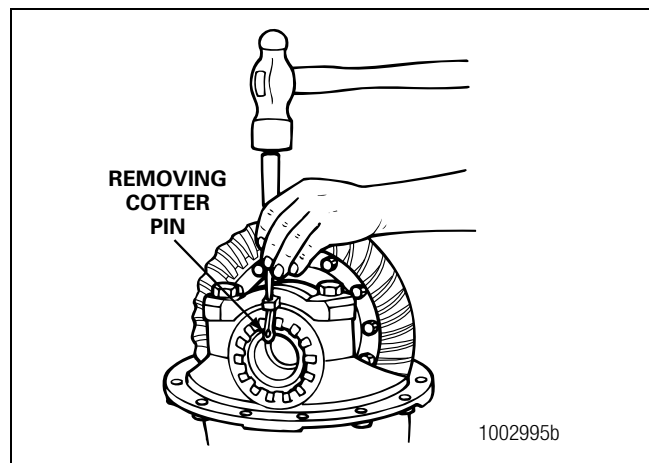

Figure 3.11
6. Remove the cotter pins that secure the bearing adjusting rings in position. Use a small drift and hammer to remove the pins. Figure 3.11.